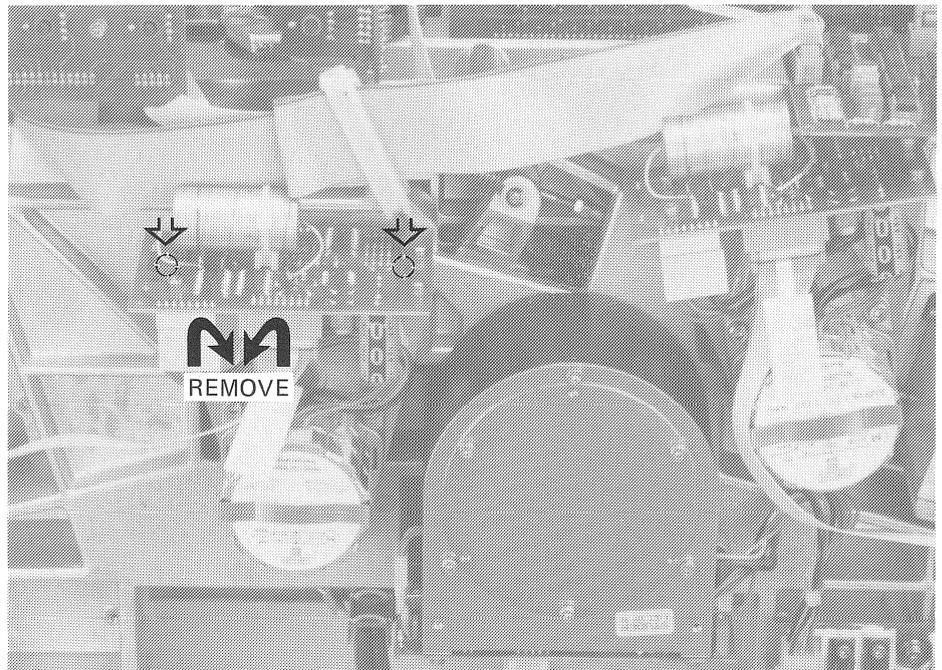

Fig. 53 Removing the tape lifter assembly
- Unfasten three 3 mm hexagon-socket-head screws [A], Fig. 53, on the bottom of the chassis.